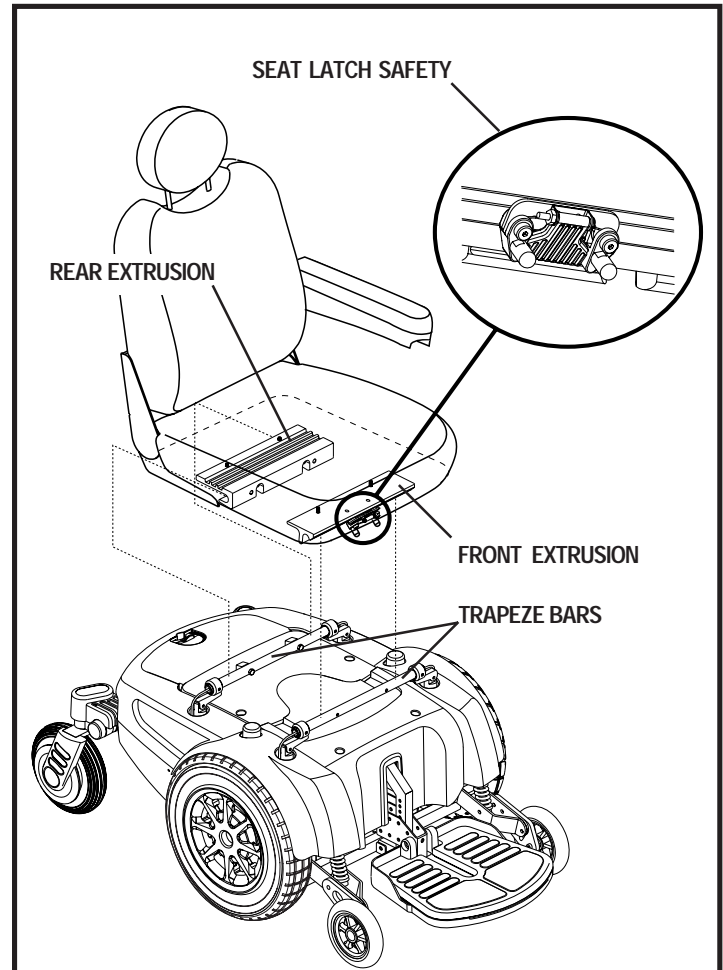

Figure 11. Universal Mounting System - Contour Seat
It may be necessary to install the seat either prior to initial operation or after transporting your power chair. Most seats are attached to the power base with the Universal Mounting System (UMS). The UMS consists of universal parts that may be attached to the seat, regardless of seat width or seat depth. The two main components are aluminum extrusions mounted to the seat base. These extrusions attach to a pair of trapeze bars that are mounted to the power base. See figure 11. If your power chair is equipped with a Synergy Seat or a TRU-Balance Power Positioning System, refer to the information provided in separate manuals.
2. Tilt the seat back and slide the rear extrusion onto the rear trapeze bar. See figure 11.
4. Flip the seat latch safety down. See figure 11.